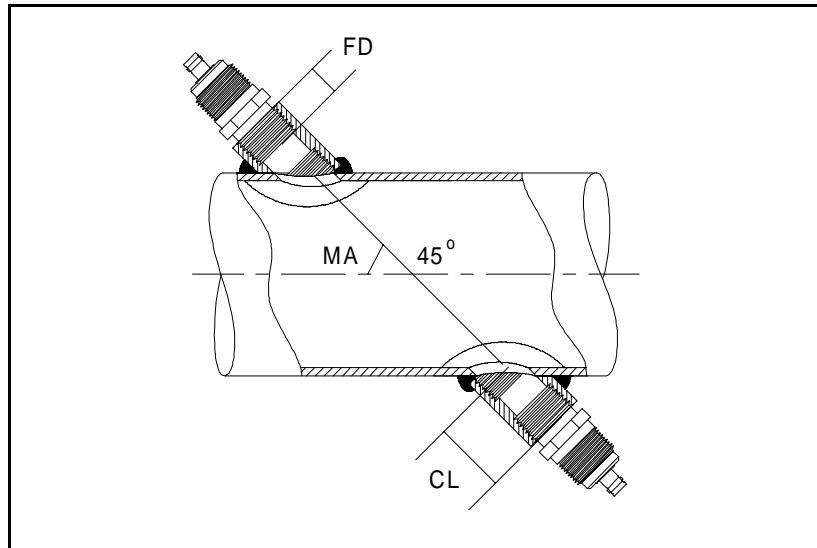

Figure D-2: Determining the Pipe Coupling Length
Use Figure D-2 below to properly measure the coupling length. Typically, the transducer face is positioned just outside the inside diameter (ID) of the pipe, or slightly retracted inside the coupling.